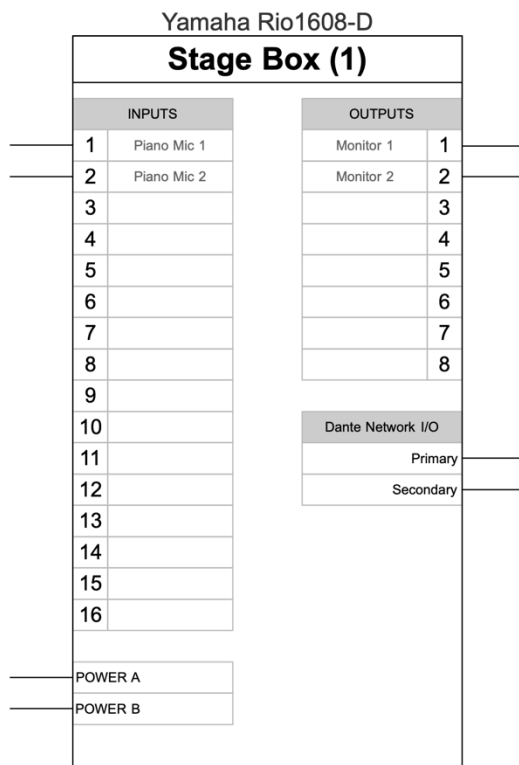

Figure 1.2.3: Device block representation of the above device
Note that in the above device block (figure 1.2.3), the (1) next to the device description indicates that there will be more than one stage box in this system. Another will have “Stage Box (2)” listed in the device block header. Note that the device block in the above figure includes power connections. Including power in SBDs is optional.
In the device block shown in figure 1.2.3, all available inputs and outputs are represented, but this is not always necessary. Sometimes it is preferable to exclude unused inputs and outputs in device blocks in order to save space and avoid buildup of extraneous information.